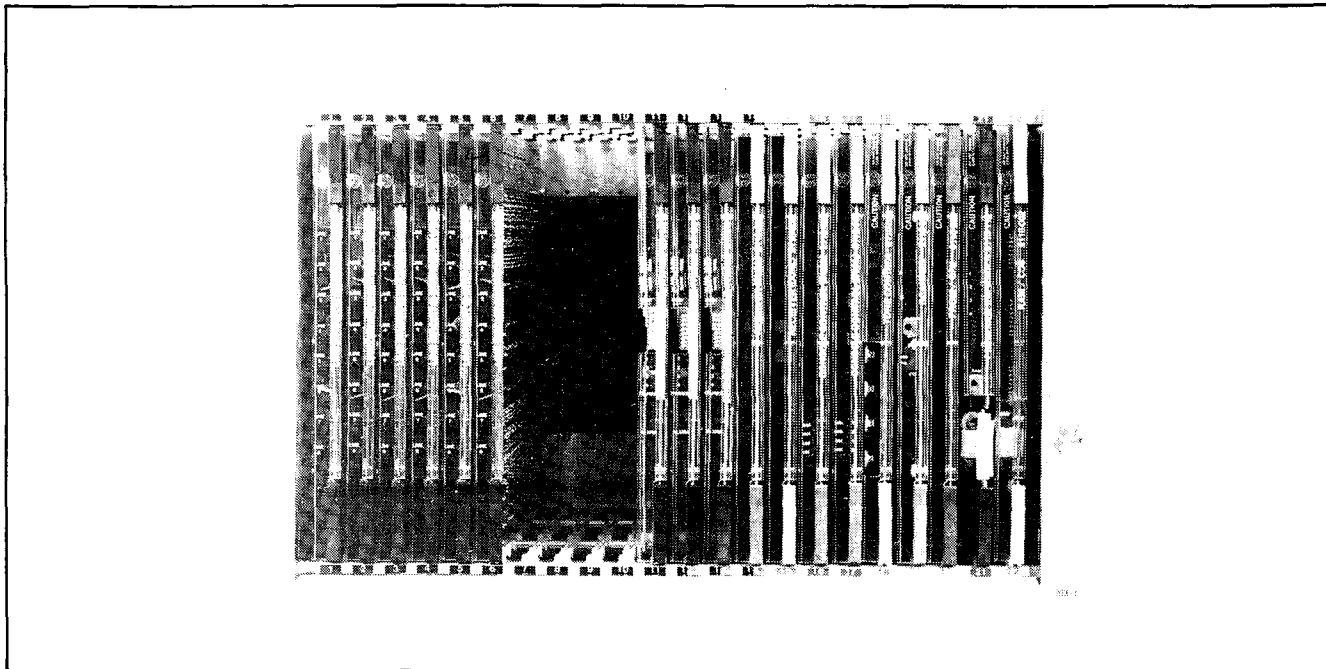

Fig. 2-3 Equipment Shelf
2.13 The equipment shelf holds up to 22 printed circuit cards which plug into the shelf backplane. On the rear of the backplane are a number of Amphenol plugs providing interconnections between the shelves and external equipment. In addition to the plugs are a number of screw down terminals allowing shelf connection to the primary power supply unit. The equipment shelf (Fig. 2-3) measures 10.75in. (273mm) high, 19in. (480mm) wide, 16.375in. (415mm) deep, and weighs approximately 27lbs (12.2kg) fully equipped.